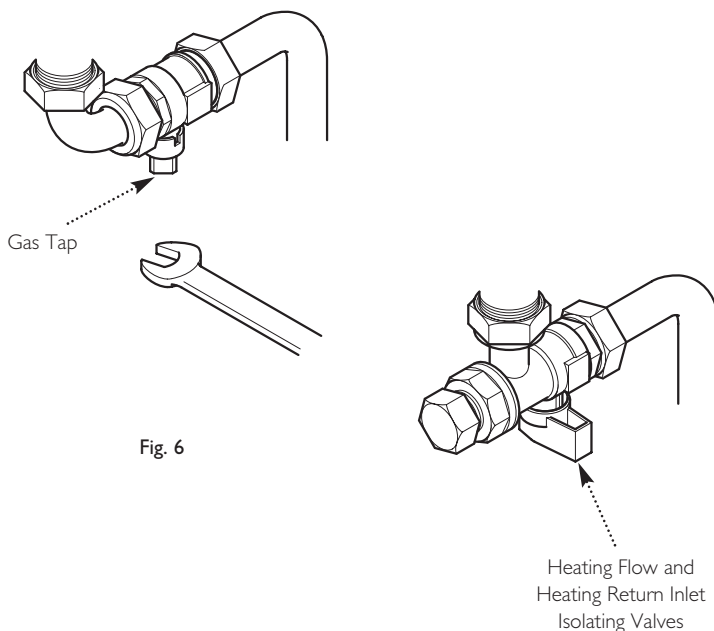

Fig. 6
Turn off the gas supply and call your gas supplier immediately. It is possible to isolate the boiler at the isolating valve (Fig. 6).
1. Using a suitable open ended spanner, turn the square nut on the gas tap through 90° (1/4 turn) to isolate the gas supply at the boiler (Fig. 6).
2. The water isolating valves are positioned under the boiler and can be closed by turning their taps to the right towards the wall (Fig. 6).